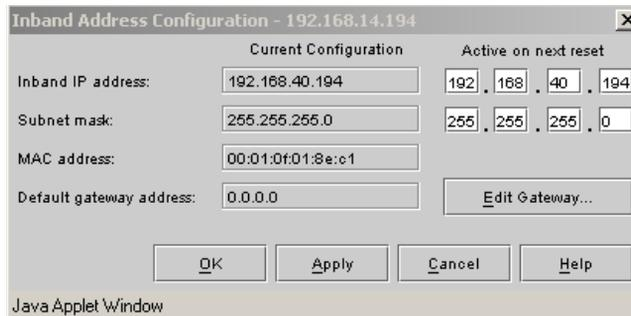

Figure 2-13 Inband Address Configuration Dialog Box
1. Select *Configuration>System>Inband Address* to display the *Inband Address Configuration* dialog box (Figure 2-13).